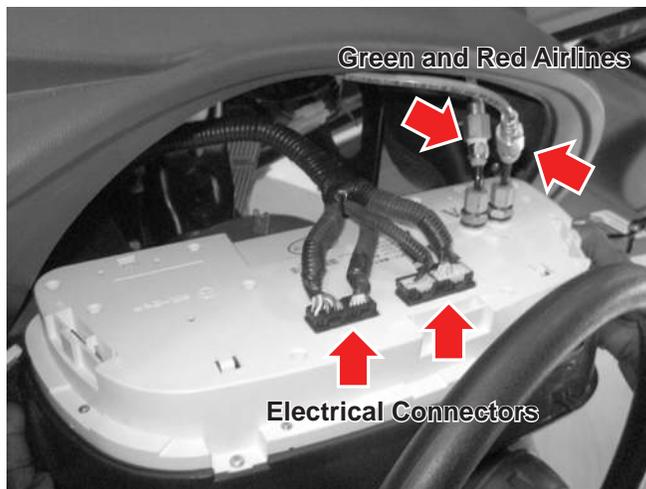

Figure 28-1
1. Connect the four electrical connectors (see *Figure 28-1*).
2. Connect the airlines, green to the RH port, red to the LH port (see *Figure 28-1*).